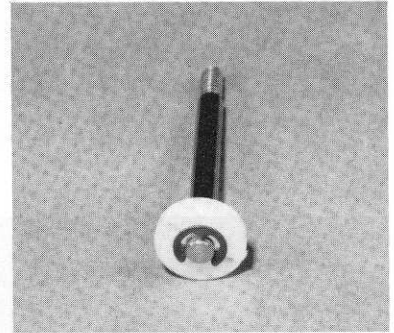

Fig. 107
□ **Fig. 107** Now slip the #6464 piston on each shaft, and then install the second E-clip. Make sure both E-clips are fully seated in the groove.